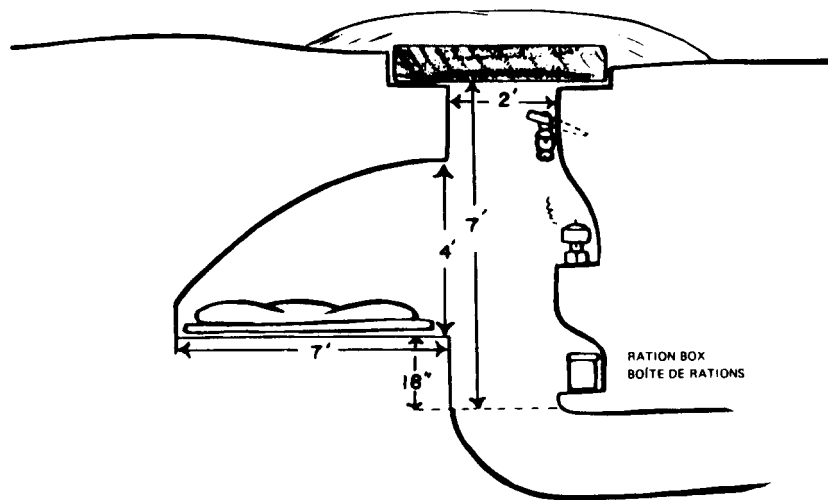

Figure 3-25 Snow Cave
- c. Dig in the sleeping bay, 18 inches up oil the bottom of the trench and hollowed out to a comfortable sitting height, usually about four feet. When digging out the sleeping bay any snow that melts will either run off to the sides or to the foot of the sleeping bay (see Figure 3-25).
- e. After the cave has been dug, improvements can be made as shown in Figure 3-25.